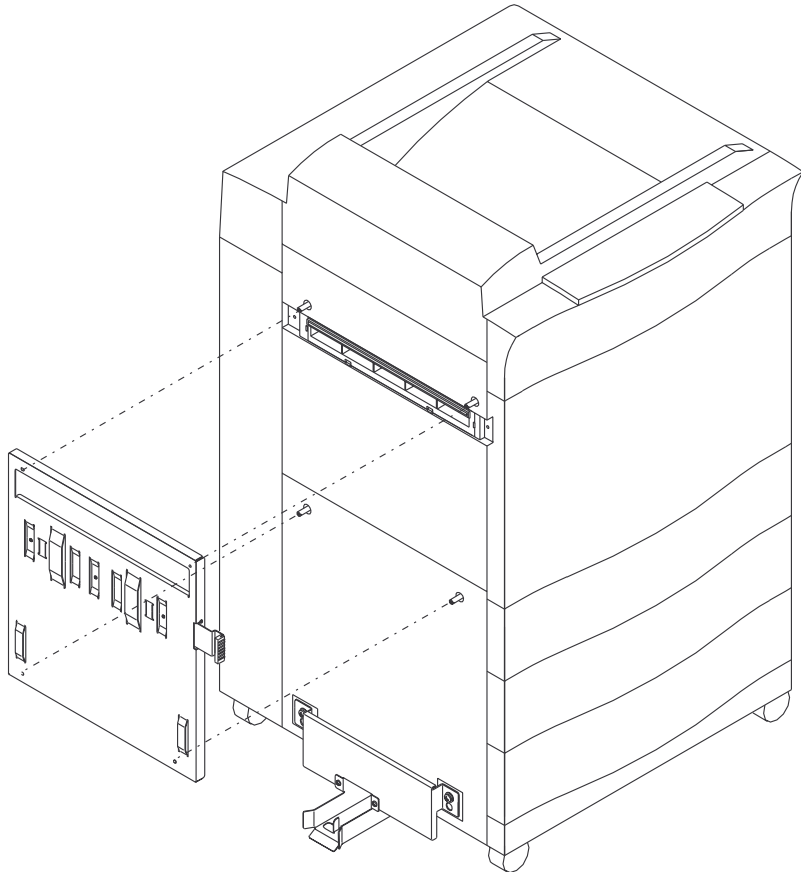

Figure 19 Attaching the joining frame
Step 11 Use the four captive screws on the joining frame to attach the joining frame to the spacer bolts. See Figure 19.